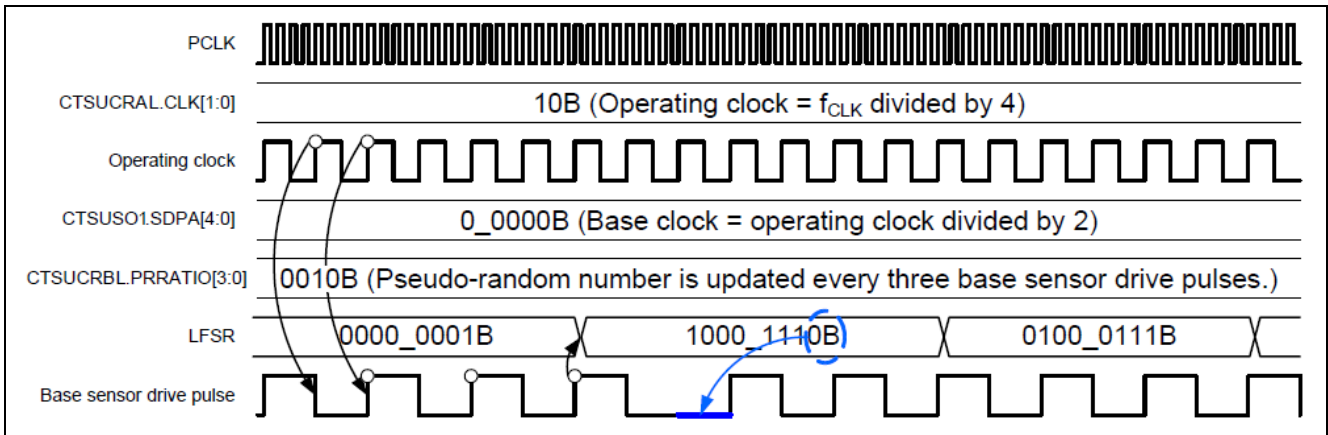

Figure 2-15 Random Phase Shift
The random phase shift function extends the low period of the base sensor drive pulse once when the bit 0 value in LFSR is 0B (Figure 2-15). The phase shift count in the pseudo-random number generation cycle is  $(\text{maximum count} - 1)/2$  (Table 2-3).
**Note** These values indicate phase shift count. One count is 1/2 cycle of the base sensor drive pulse. Phase shift count is independent of the CTSUCRBL.PRRATIO[3:0] value (Figure 2-15).